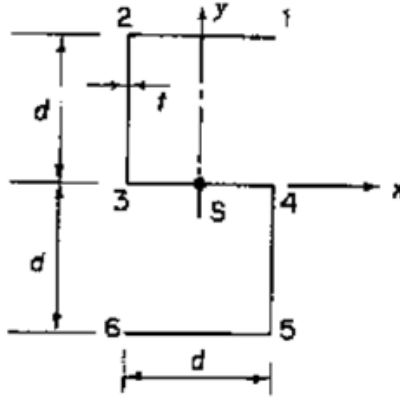

Figure 3
- (b) An axially symmetric beam has the thin-walled cross-section shown in Figure 3. If the thickness  $t$  is constant throughout and making the usual assumptions for a thin-walled cross-section, show that the torsion bending constant  $\tau_R$  calculated about the shear centre  $S$  is  $\tau_R = 13/12 d^5 t$ . [BL: Apply| CO: 6|Marks: 7]